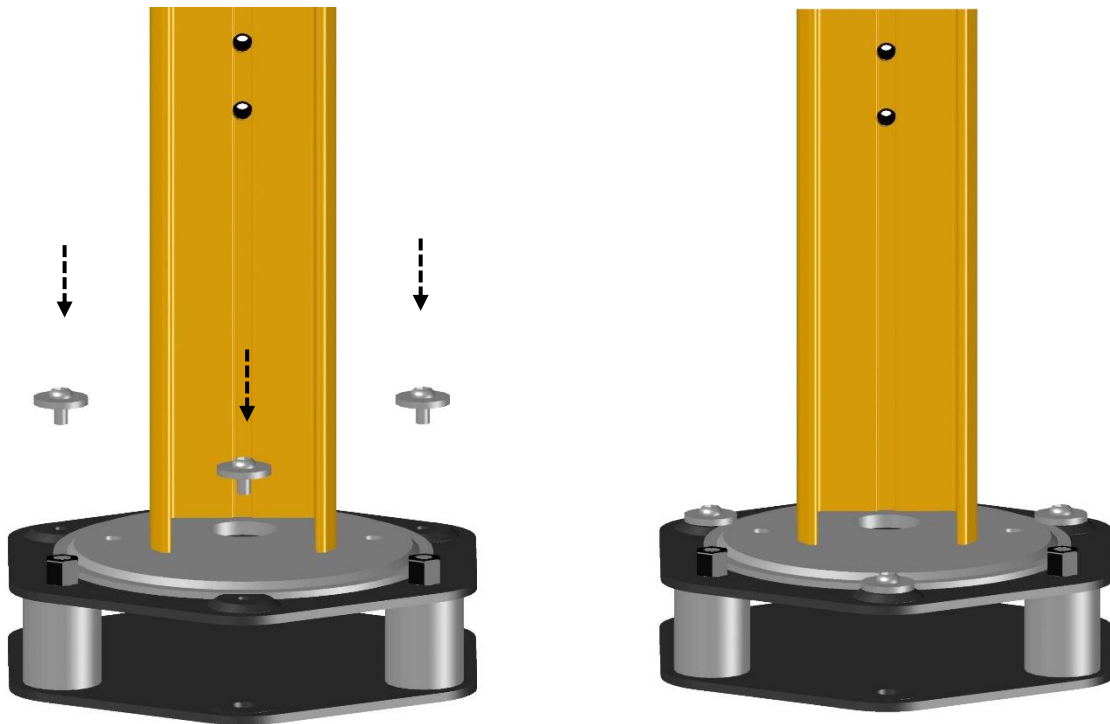

Fig. 3
- Posizionare la base colonna sulla base a pavimento FMC-CB/FMC-CBL (Fig. 3). Place the column base plate on the FMC-CB/FMC-CBL stand bottom (Figure 3).